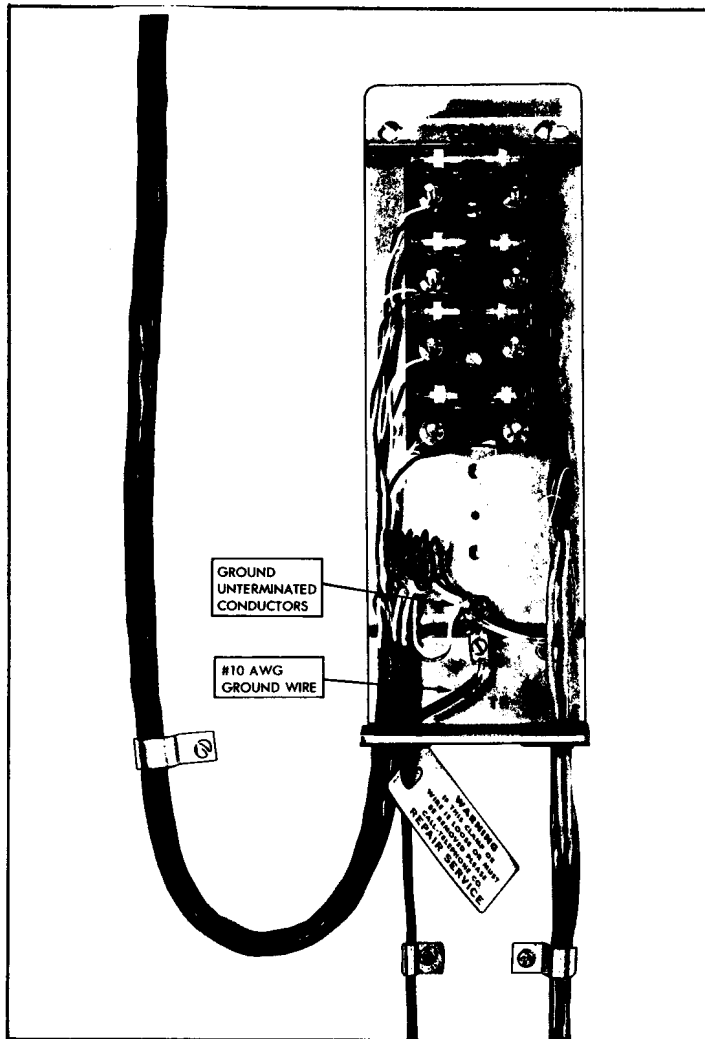

FIGURE 13. Typical Installation of Fuseless Gas Tube Multiple Protector Type 400 with Two 405 Two-Pair Mounting Blocks (Cover Removed)
g. Figure 13 shows a typical installation of the multiple type gas tube protector.